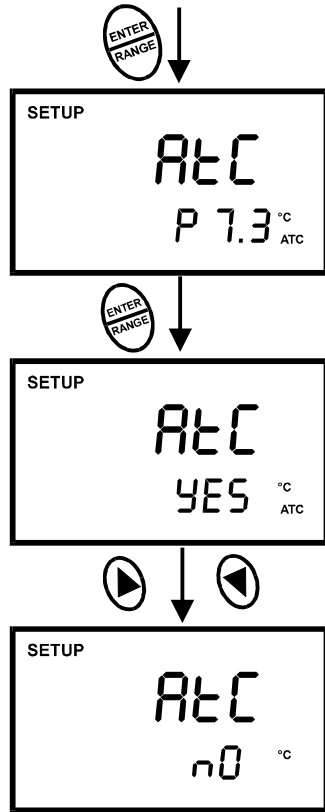

Figure 18 - Turning ATC feature ON or OFF
- 5) Press the ▲ or ▼ keys to select the Automatic Temperature Compensation feature on (ATC on) or off (ATC off). See Figure 18.